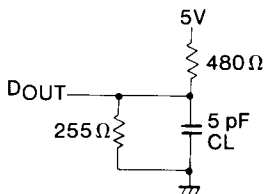

Figure 2 Output Load
2. TCX and TOTD are measured ±200 mV from steady state voltage with specified loading in Figure 2.
5. TTOW and TOW are measured  $\pm 200$  mV from steady state voltage with specified loading in Figure 2.